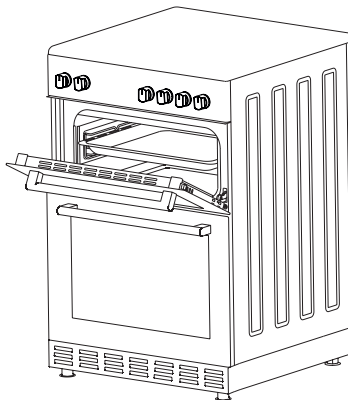

Figure 32
3. Place the safety panel under control panel by opening the oven front cover glass (figure 32)